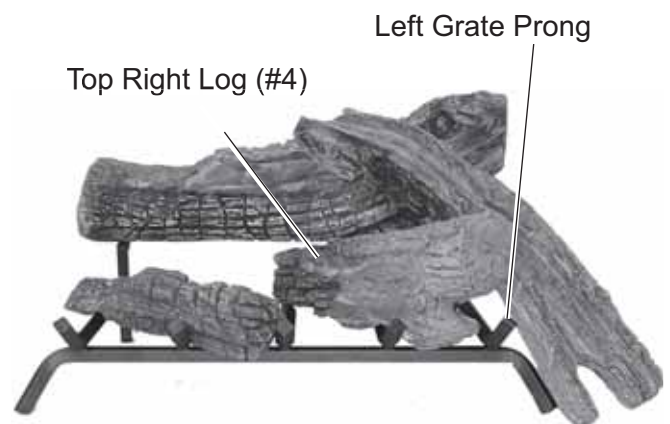

Figure 80 - Resting Top Right Log (#4) on Bottom Left Log
5. Rest right end of Top Right Log #4 on bottom right log. *See Figure 80.*